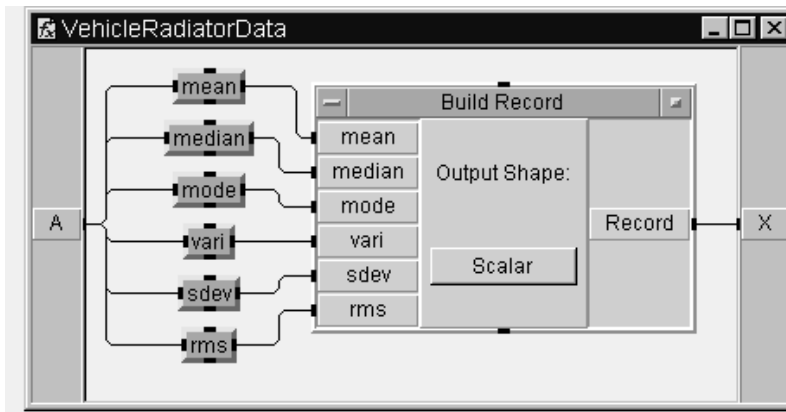

Figure 11.9. The VehicleRadiatorData UserFunction
- Go to Build Record; add two more input terminals; label all six pins to agree with the statistical-formula titles. See Figure 11-9.